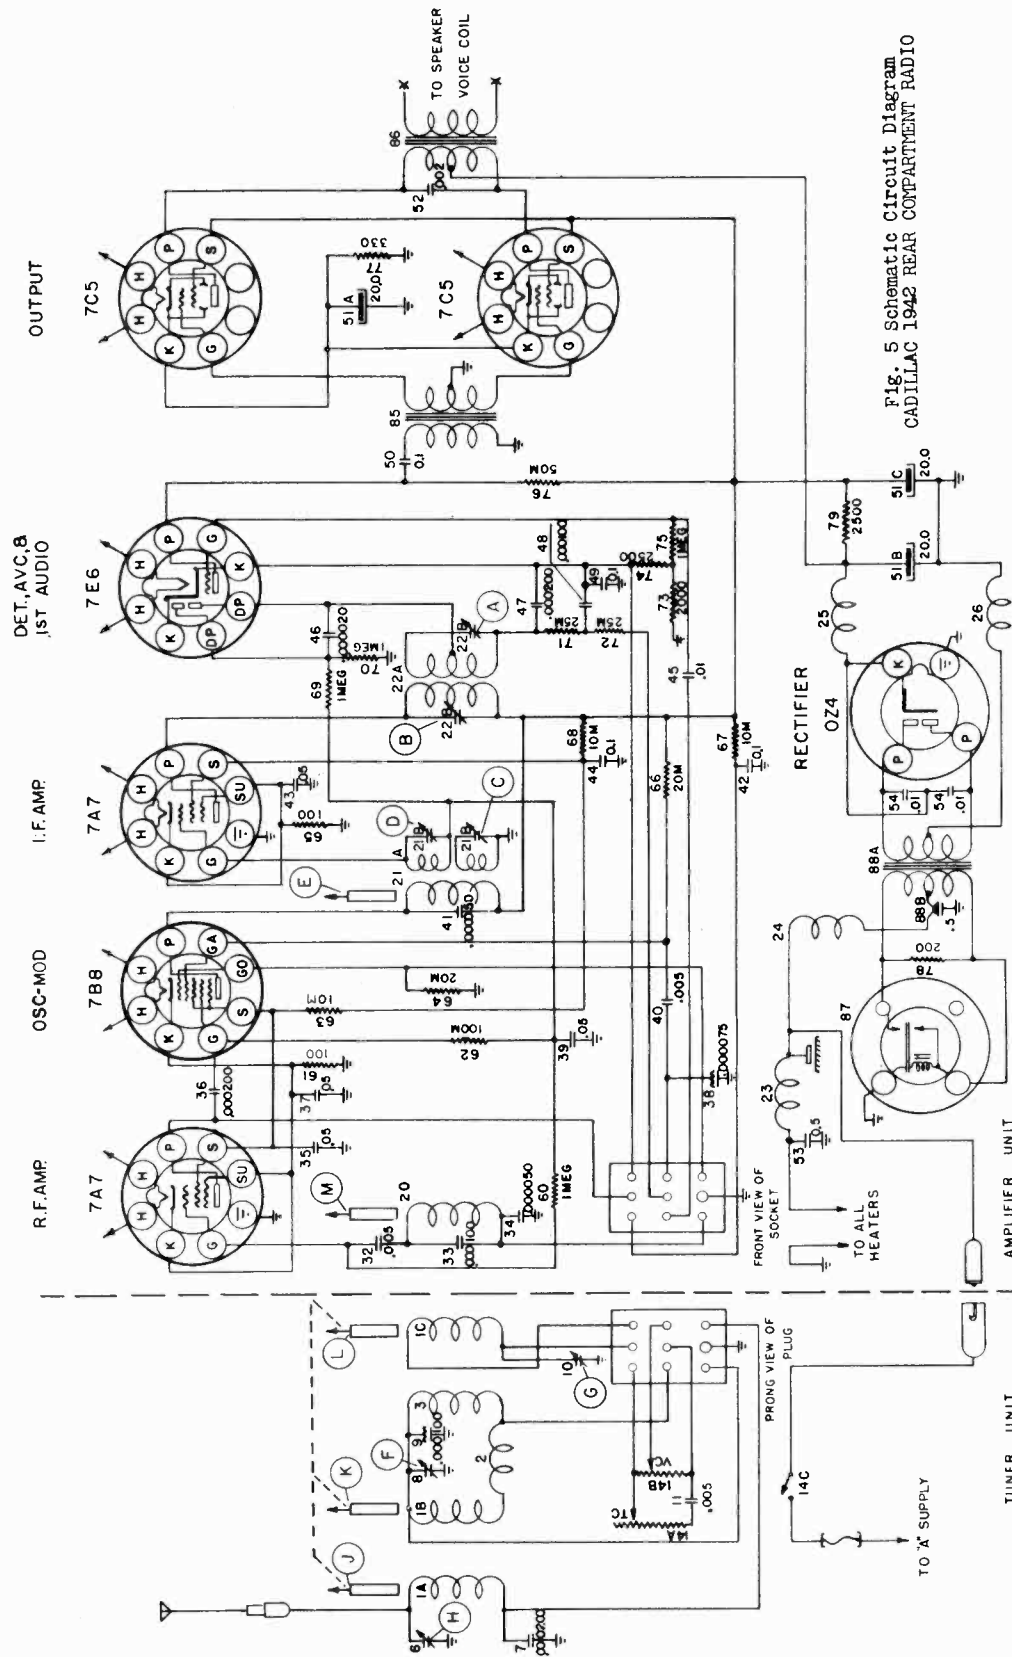

Fig. 5 Schematic Circuit Diagram
- (e) Adjust the antenna and R.F. cores (Illus. J, L, Fig. 5) so that the front surfaces of these cores are flush with the front ends of the coil fiber mounting bushing. Paragraphs (c), (d) and (e) mechanically align the cores so that all three are just at the point of entering their respective windings when the tuning mechanism is against the high frequency stop.
- (d) Adjust the oscillator trimmer (Illus. F, Fig. 5) for maximum output.
- (c) Adjust the R.F. trimmer (Illus. G, Fig. 5) for maximum output.
- (d) Adjust the antenna trimmer (Illus. H, Fig. 5) for maximum output.
- (b) Adjust the antenna core (Illus. J, Fig. 5) and the R.F. core (Illus. L, Fig. 5) for maximum output.
After the receiver is installed in the car readjust the antenna trimmer (Illus. H, Fig. 5) on a weak station near 1400 K.
- (b) Adjust the R.F. trimmer (Illus. G, Fig. 5) and the antenna trimmer (Illus. H, Fig. 5) for maximum output.